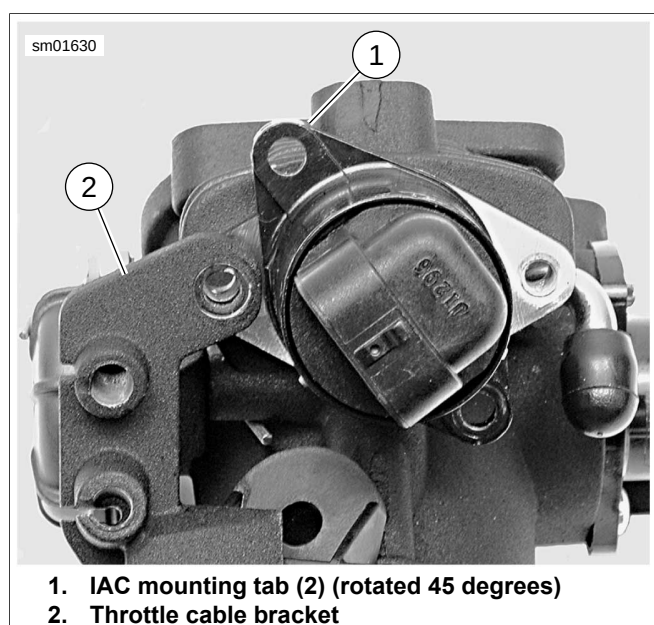

Figure 4-52. Removing/Installing IAC: XL Models
4. Using a six-point socket (not a Torx wrench), remove two screws (2) in the following order:
5. See Figure 4-52. Grasp IAC and rotate clockwise until IAC mounting tab (1) clears throttle cable bracket (2).
4. See Figure 4-52. Rotate IAC approximately 45 degrees clockwise so IAC mounting tab will clear throttle cable bracket (2) when IAC is installed.